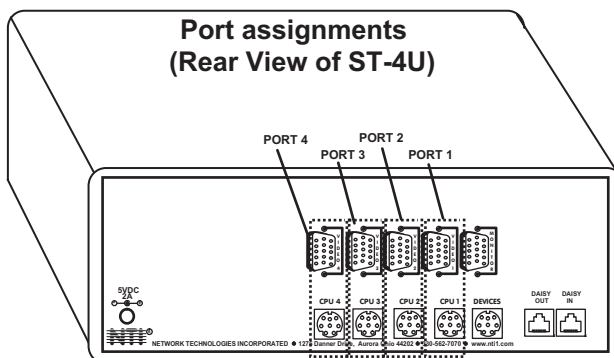

Figure 17- Video and Device connections identified with port numbers
NOTE: The "port" mentioned in the Command Functions above refers to the combination of the video (VIDEO x) and device (CPU x) connections of like numbers that a CPU is connected to (i.e. the CPU that is connected to VIDEO 1 and CPU 1 will be identified as PORT 1 or P01). See Fig. 17.
- A connection to the CPUs from the keyboard would be achieved by typing the appropriate port number. (See Fig. 17 above.)
- When cascading, if not all of the ports are used on each slave attached to your system, THE PORT NUMBER(S) ASSOCIATED WITH THE UNUSED PORT(S) WILL NOT BE ACCESSIBLE when trying to control the switches connected to the system. (i.e. if ports 7 and 8 are not used on the first slave and an attempt is made to connect to ports 7 or 8 while in Command Mode, the NODEMUX will ignore the attempt.)